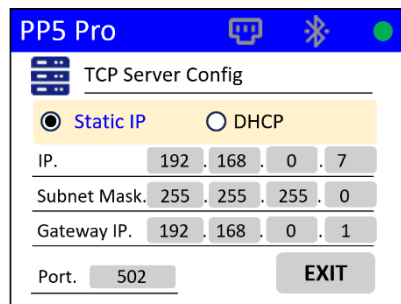

Figure 9.
- If you choose the **Static IP**, you need to set the **IP**, **Subnet Mask**, **Gateway IP** and **Port** manually, as shown in figure 9.